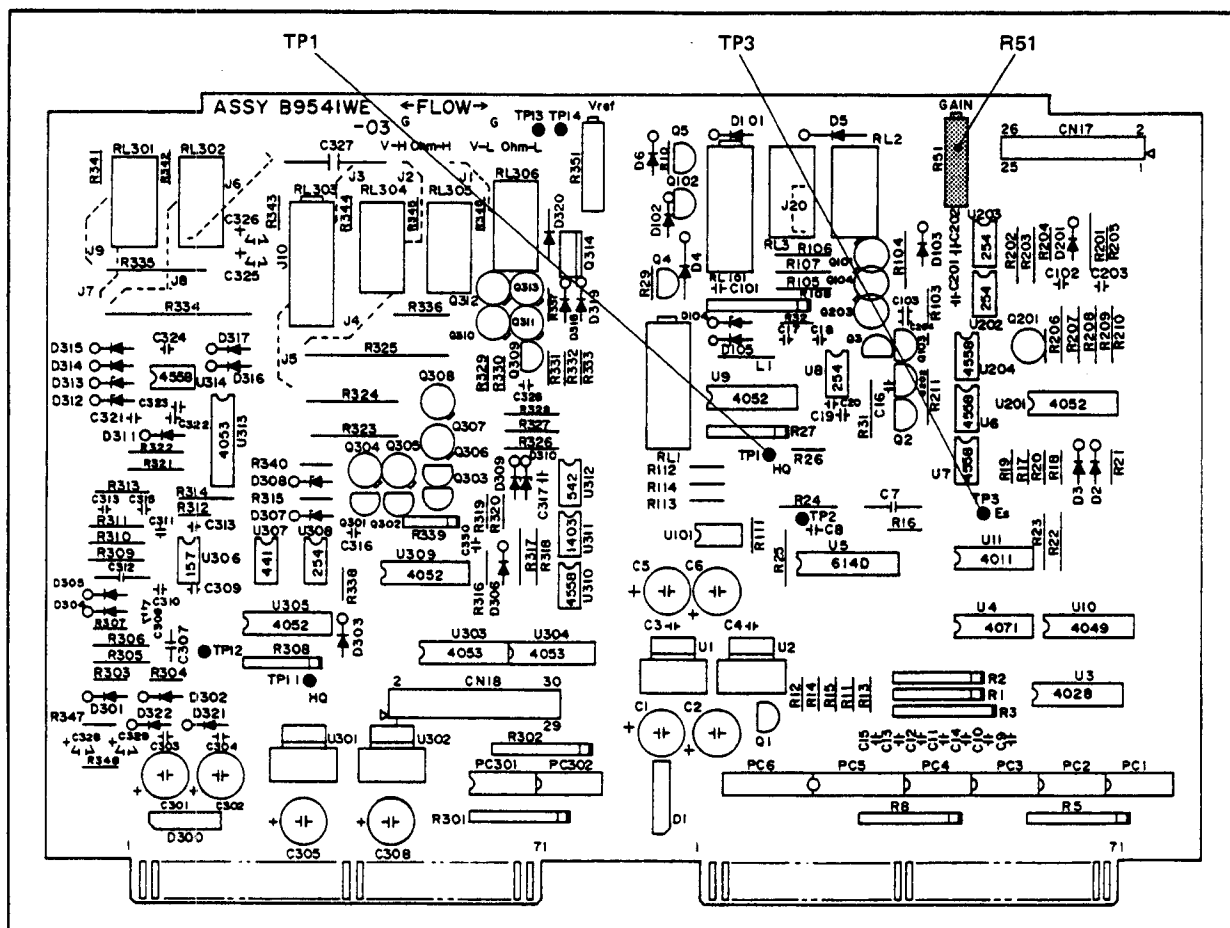

Figure 11-2. A/D Card Ass'y: B9541WE/WF/WG.
- 4) Next, adjust the GAIN adjustment potentiometer R51 on the A/D Card Ass'y: B9541WE/WG shown in Figure 11-2 so that the display is within the range $+2.0000 \pm 0.0002$ V.
- 2) Connect a digital multimeter which is set to DC voltage measurement mode between test points TP3 (+Es) and TP1 (COM) on the A/D Card Ass'y (See Figure 11-2).